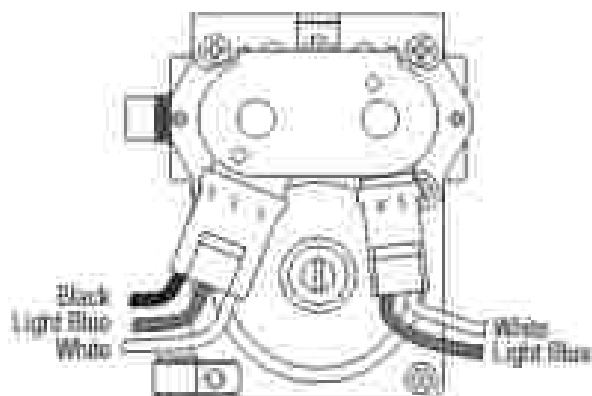

Figure 2 - Measuring gas valve resistance.
3. Use an ohmmeter to determine if a gas valve coil has malfunctioned. Remove harness plugs. Measure resistance across the terminals (see Figure 2). Readings should match those shown in the following chart. If not, replace coils.